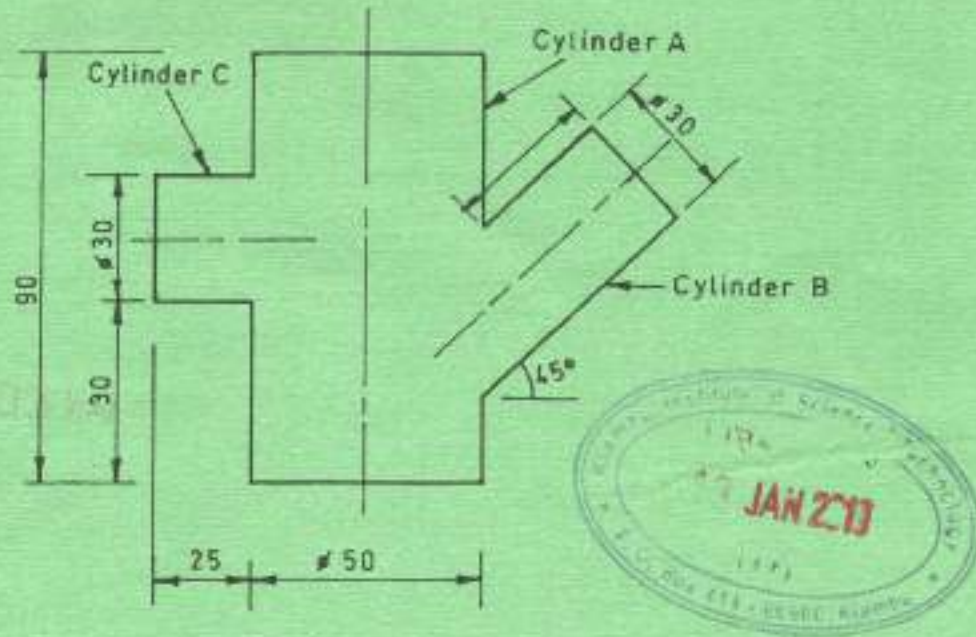

Fig. 1
4. Figure 1 shows the front elevation of three cylinders interpenetrating each other centrally on plan. Using first angle,